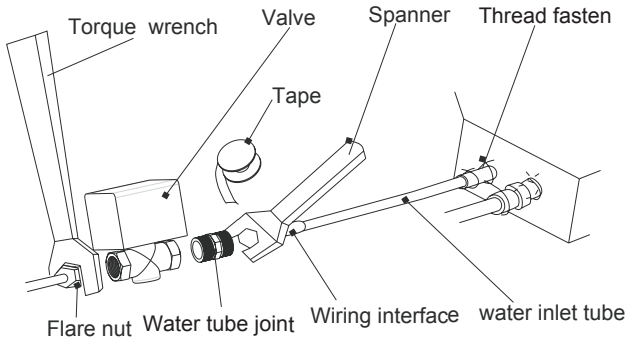

Fig.18
- (1) The installation of the motorized valve should be done according as Fig.18. Firstly connect one end of the tube joint with the water inlet tube of the unit, then connect the other end with the motorized valve, and lastly connect the motorized valve with the flare nut . During the installation, both the torque wrench and the spanner should be used and the moment of torque should be within 90 N.m. Besides, a secure connection should be guaranteed.